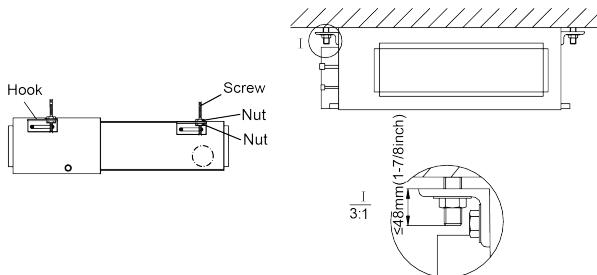

Fig.4.6
- (4). Pass the unit hangers over the bolts installed to the ceiling and install the unit with the special nut (Fig. 4.6).